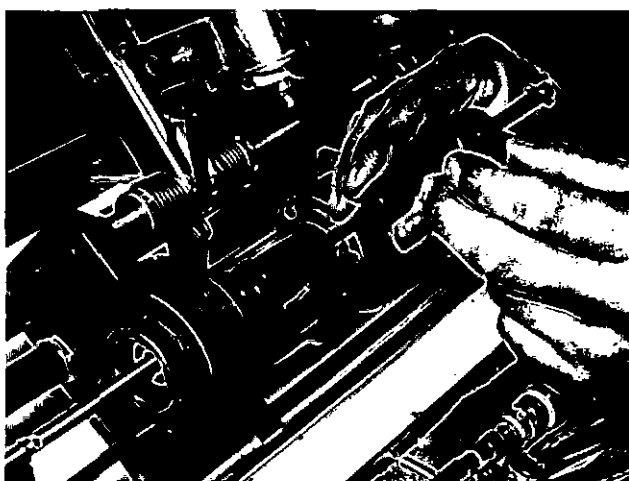

Fig. 2-60. Burnish the PT injector with 3376135
4. Use the slide hammer of service tool 3376135 to burnish the injector orifice plug, Fig. 2-60.